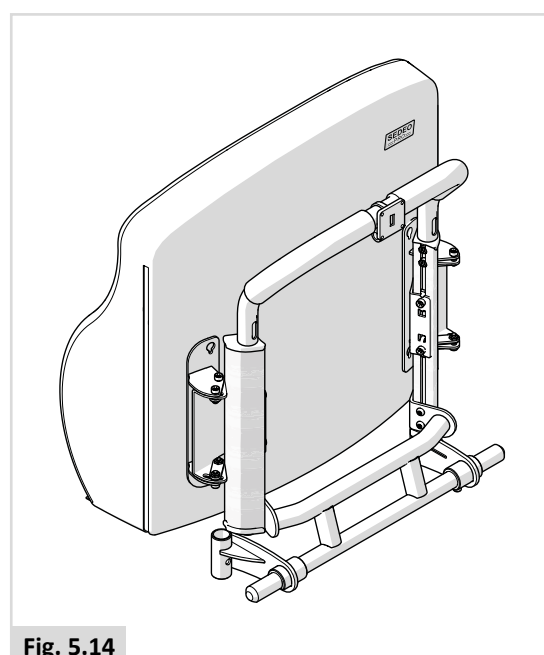

Fig. 5.14
- Sedeo Pro Flexible (Fig. 5.14)